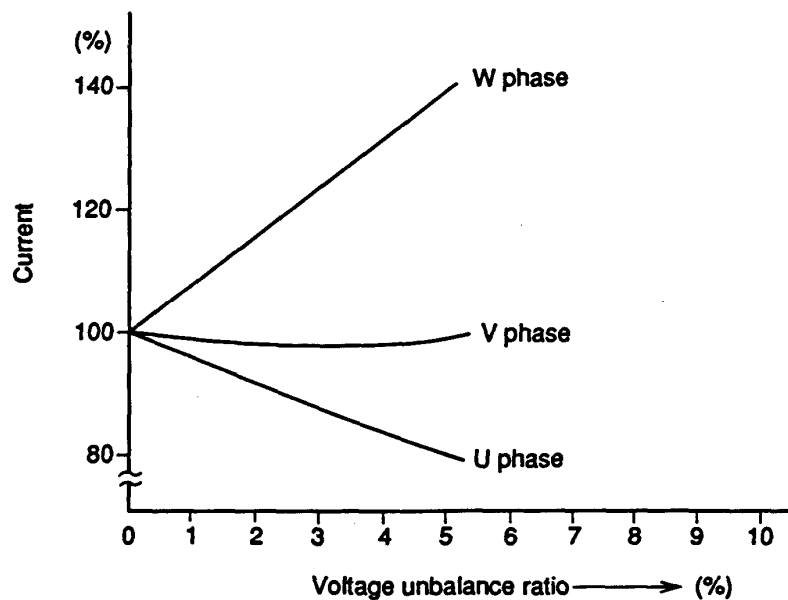

Fig. 14-2 Each phase current affected by unbalanced voltage (example)
- a) When the motor is operated with unbalanced voltage, the current for each phase will be shown in Fig. 14-2. With unbalanced voltage, the input will increase while the output, torque and efficiency will decrease.
As is obvious from Fig. 14-2, the phase carrying the larger current may be overheated extremely, namely, the life of its winding will be short, and at the same time the power cost will be high as the result of increased loss. In addition, if the unbalanced voltage is large, there is danger of increasing the vibration or noise.